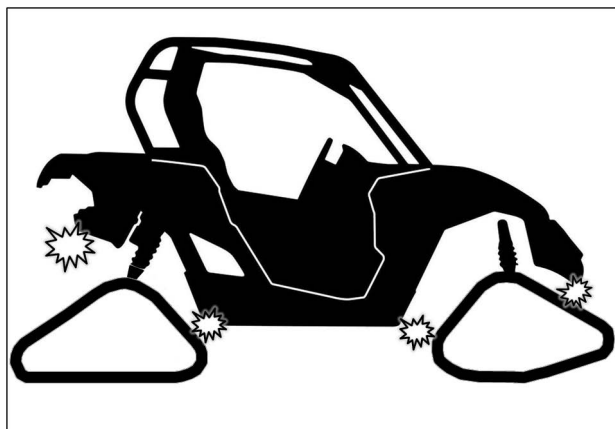

Fig. 40
2. Verify for possible contact between Track System and lower fender corners. See Fig. 40